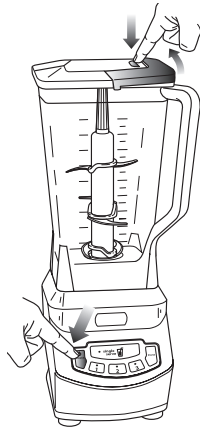
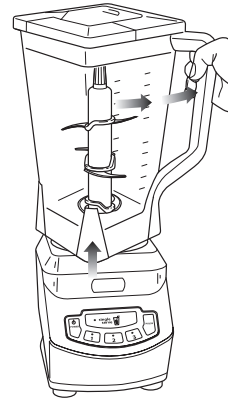

Fig. 7
Fig. 8
- 11 When you have reached your desired consistency, stop the appliance by pressing the power button (⏻) and wait for the Stacked Blade Assembly to stop turning. (Fig. 7)
- 12 To remove the lid, pull the lid handle up to a 90° angle. Turn the blender pitcher counter-clockwise to lift off the base. (Fig. 7, Fig. 8)